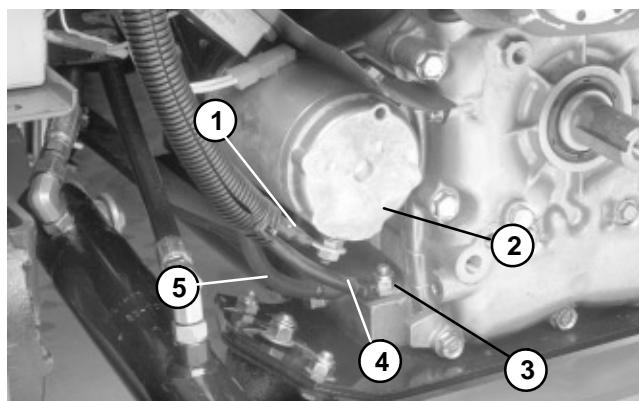

Figure 47
10. Disconnect red positive cable cable (solenoid) from the starter (Fig. 47).
11. Remove lock nut and cap screw securing black ground wire and black battery cable (negative) to the engine block. Pull cable and harness clear of the engine (Fig. 47).
- Insert cap screw through engine base and engine block. Connect black ground wire and black battery cable (negative) to the cap screw. Screw lock nut onto the cap screw (Fig. 47).
2. Connect red positive cable cable (solenoid) to the starter (Fig. 47).